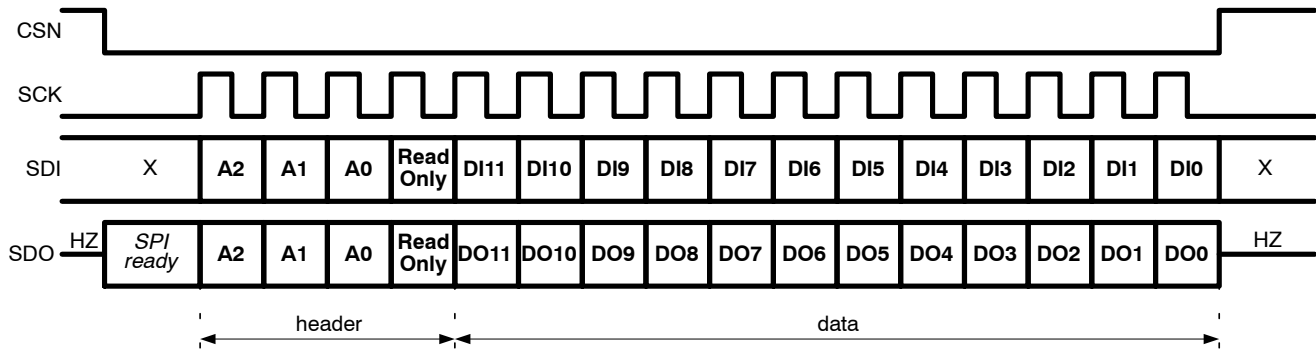

Figure 22. SPI Frame Format
The Serial Peripheral Interface ensures control of NCV7471(A) operating modes, configuration of its functions and read-out of internal status and system information. The serial communication is achieved via SPI frames shown in Figure 22.